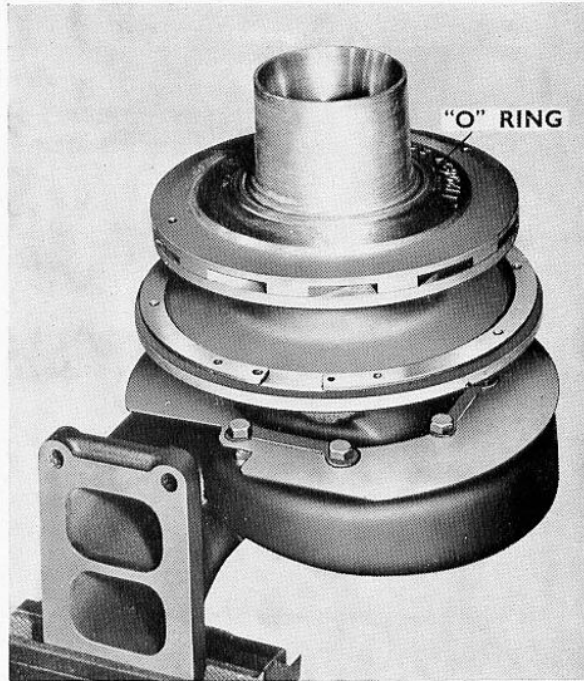

FIG. 10. COMPRESSOR EXTENSION AND 'O' RING IN POSITION
7. Install compressor extension with dowels (Fig. 10).
8. Install a new "O" ring on the compressor extension (Fig. 10).